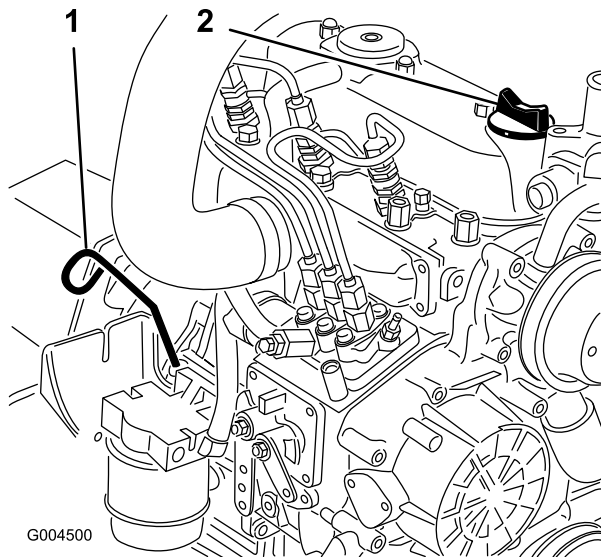

Figure 41
2. Remove the dipstick (Figure 41), wipe it clean, and install the dipstick. Remove the dipstick and check the oil level.
3. If the oil level is below the Full mark, remove the fill cap (Figure 41) and add oil until the level reaches the Full mark on the dipstick.